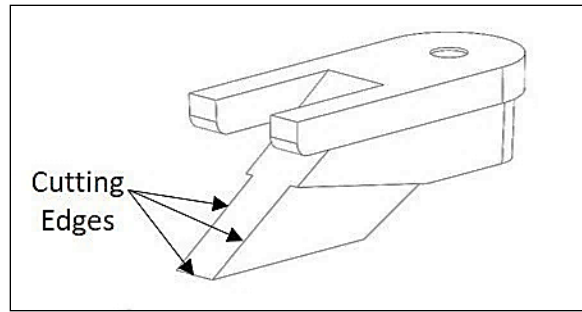

Figure 3. TGB Cutting Edges
- 3.1.3. Ensure the TGB has sharp cutting edges prior to use. See **Figure 3**.